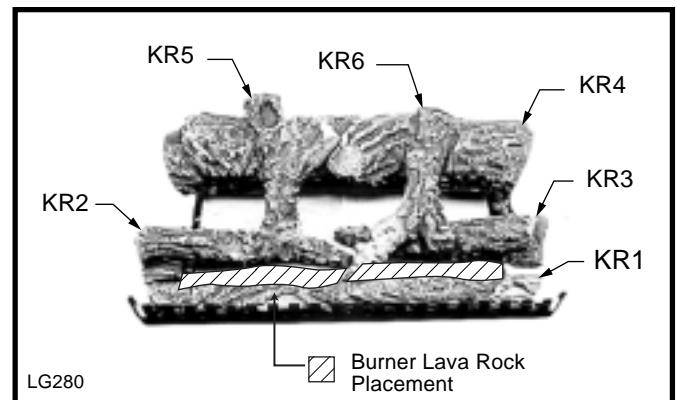

Fig. 32 RFSDV22/32 logs and burner lava rock placement.
Installation of Logs & Burner Lava Rock Material**RFSDV22, RFSDV32 (Fig. 32)**
7. Place small lava rocks and ember material on top of burner. (See Fig. 32 for proper location).